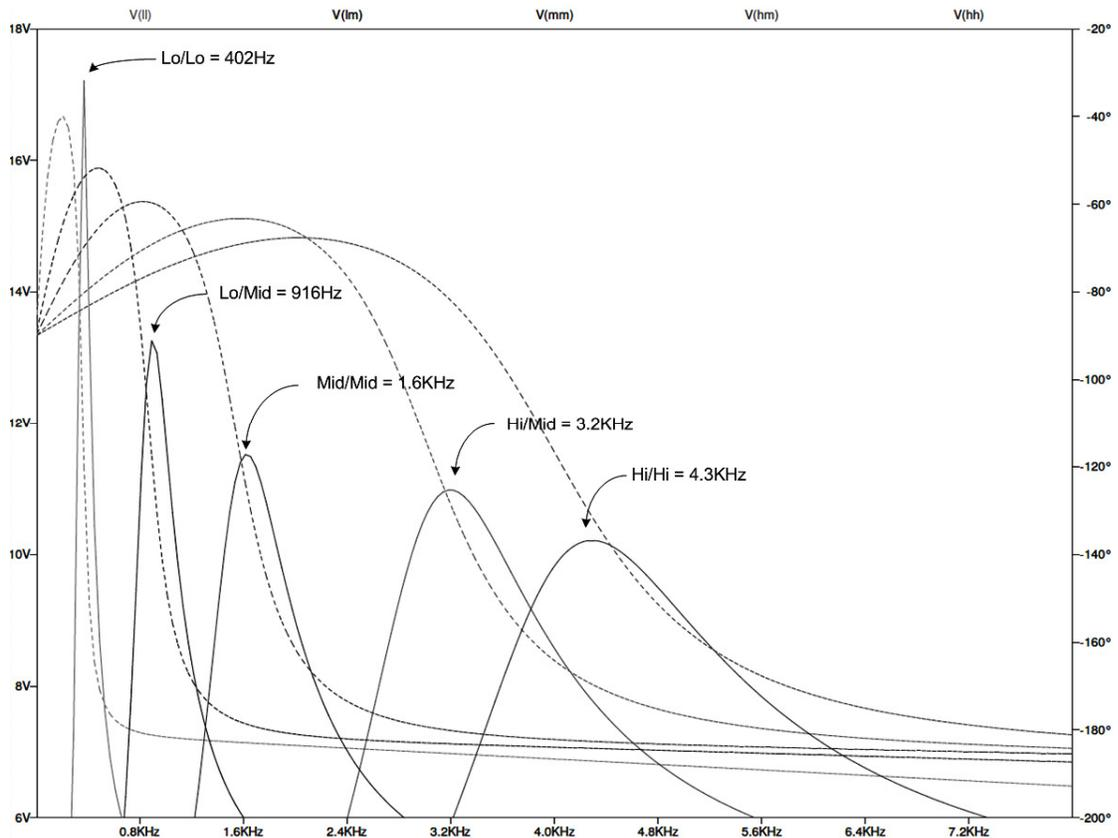

Figure 7. Filter Frequency Response (Adjusted to Highest Frequencies, trim-pots counter-clockwise)
- Using a small flat screwdriver, turn all trim-pots on the main PCB all the way counter-clockwise. This sets the sensitivity of all filters to minimum, and center frequencies to the highest end of their ranges (see Figure 7).
- Adjustment of the center frequency pots (HH-CTR through LL-CTR) is not strictly required, you can simply leave these turned all the way counter-clockwise if you choose to, and the frequencies responses of the filters will be as shown in Figure 7. But if you do want to alter the center frequencies of the bands, then you can do so by adjusting the 'xx-CTR' trim-pots. You can use a function generator, or just some musical instrument like a guitar or keyboard to tune your filter center frequencies.